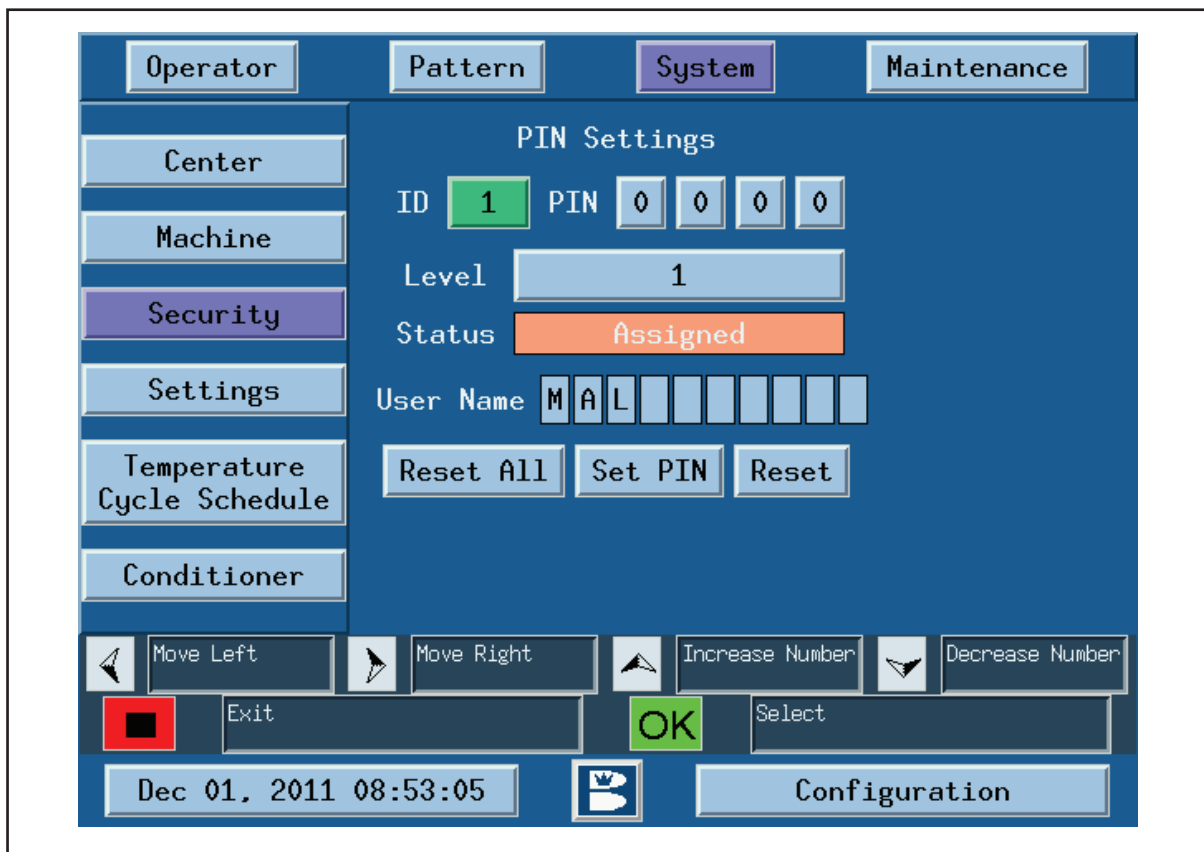

Figure 5-19. System Security
1. Go to the System menu. Refer to Figure 5-19.
**i** **NOTE:** *If the PIN is already assigned to a different user (ID) a warning message will indicate that you must enter a different number.*